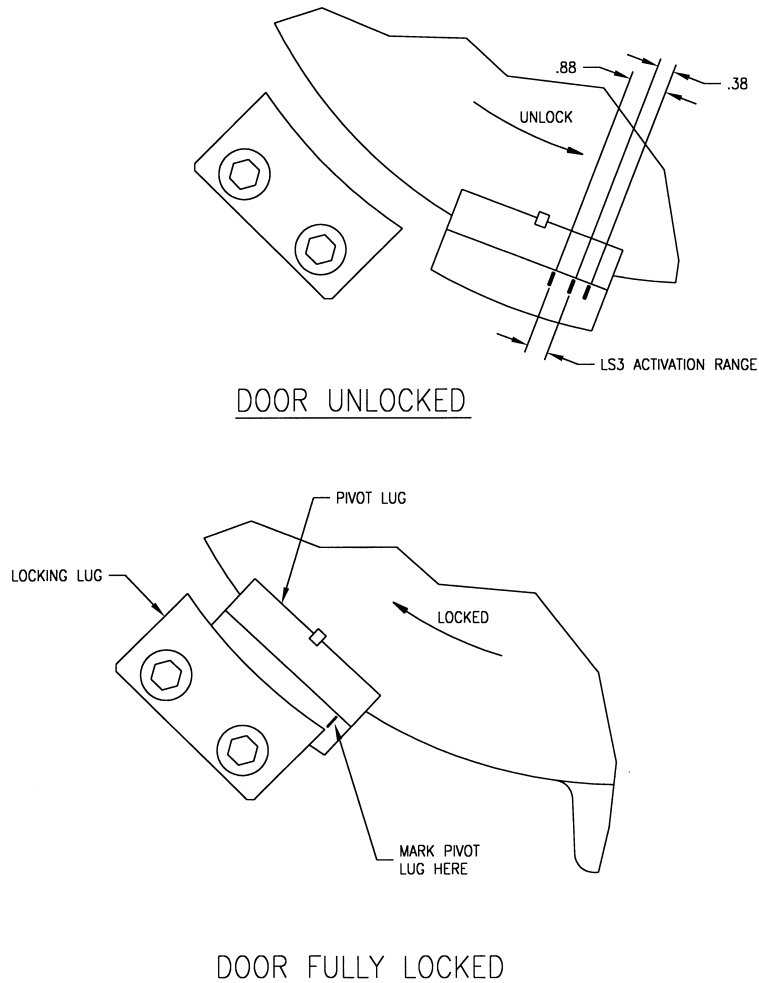

Figure 2. Door Locked Limit Switch Adjustment Check.
- c. Adjust the threaded rod so that it protrudes .31-.38-inch beyond the back of the safety cover bracket when the safety cover is closed and pinned shut. See ref. (1), Detail 50-E.
3.4.3 Door Locked Limit Switch LS3 Adjustment. See ref (1), Section 52-A and Detail 52-E for location of LS3. LS3 should have been adjusted when it was installed on the CMU. Complete steps “a” thru “e” below to check for correct adjustment. If adjustment is correct, skip to section 3.4.4; if incorrect, complete the rest of this procedure.
- b. Mark the location of the door pivot lug (ref. 2, pc 17) relative to the leading edge of the fixed locking lug (ref. 1, pc 40) with a washable or water-soluble marker. See Figure 2.
- d. Measure 0.38 inch to the left of the mark made in step “b” above and make another mark. Measure 0.88 inch to the left of the mark made in step “b” above and make another mark. See Figure 2.
- i. Hold the lever arm roller in contact with the door locked switch flag (ref. 2, pc 10).